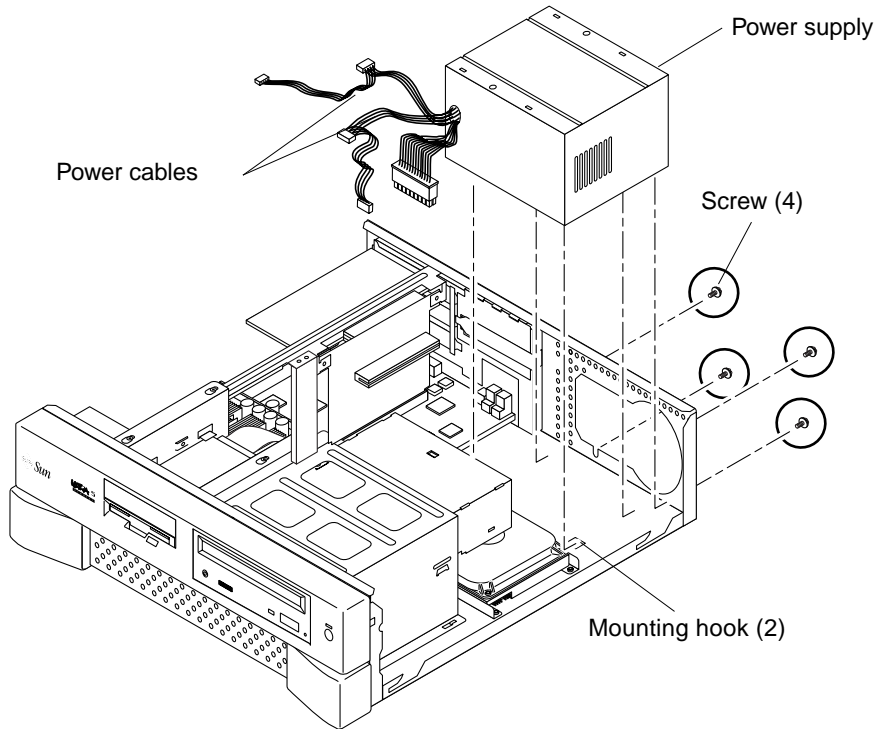

FIGURE 6-1 Removing and Replacing the Power Supply
2. **Remove the power supply as follows (FIGURE 6-1):**
1. Replace the power supply as follows (FIGURE 6-1):